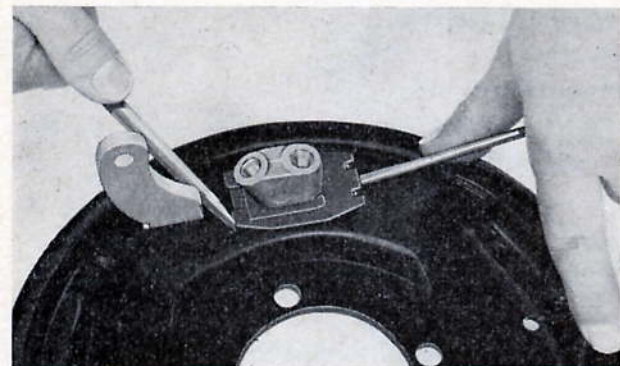

Fig. O.14. Prising up the rear brake cylinder retainer plate to release the locating tabs (brake assembly removed from vehicle for clarity of illustration)
7. Prise up the end of the retainer plate (Fig. O.14) sufficiently to disengage the tabs and remove the plate. Remove the parking brake operating lever, spring plate and locking plate. Loosen the brake flange plate attaching nuts, tilt the plate and withdraw the cylinder.